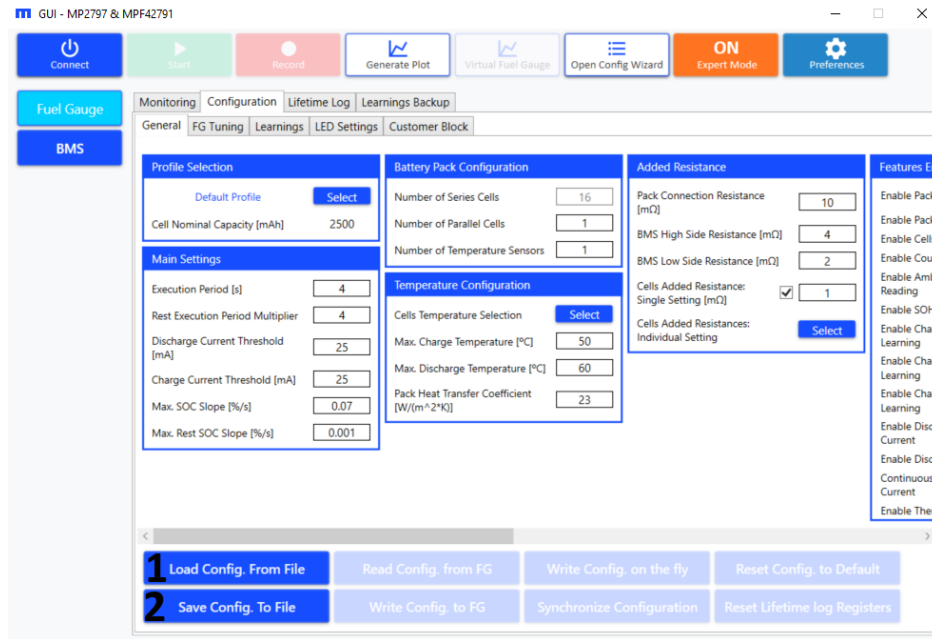

Figure 47: Fuel Gauge Configuration, Load and Save Buttons
3. Click “Load Configuration from file” to open the file explorer (denoted as “1” in Figure 47 on page 36). Select a configuration file. If the file contains configurations that are in the correct format, the configuration parameters in the GUI are overwritten (see Figure 47 on page 36).
4. Click “Save Configuration to file” to open the file explorer (denoted as “2” in Figure 47 on page 36). Select the directory and the filename of the exported configuration file, which contains all configurations from the Fuel Gauge (see Figure 47 on page 36).